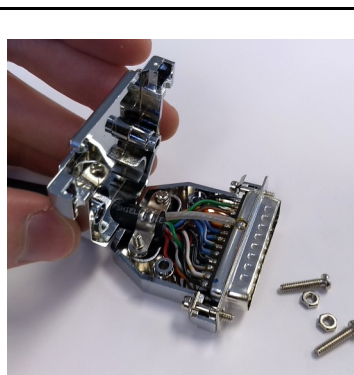

Figure 1.31
3. Place the connector between the back-shell halves as shown in **figure 1.31** and secure with the provided hardware.